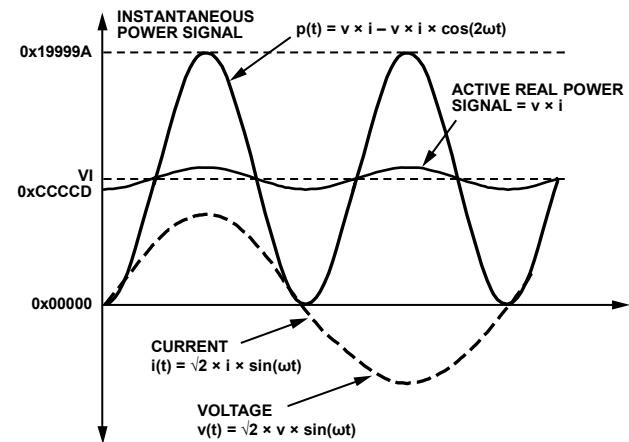

Figure 49. Active Power Calculation
Note that the active power is equal to the dc component of the instantaneous power signal $p(t)$ in Equation 9, that is, VI . This is the relationship used to calculate active power in the ADE7518. The instantaneous power signal $p(t)$ is generated by multiplying the current and voltage signals. The dc component of the instantaneous power signal is then extracted by LPF2 (low-pass filter) to obtain the active power information. This process is illustrated in Figure 49.
The ADE7518 also incorporates an active power offset register (WATTOS[15:0]). It is a signed, twos complement, 16-bit register that can be used to remove offsets in the active power calculation (see Figure 49). An offset can exist in the power calculation due to crosstalk between channels on the PCB or in the IC itself. The offset calibration allows the contents of the active power register to be maintained at 0 when no power is being consumed.
As mentioned previously, the discrete time sample period (T) for the accumulation register is 1.22 μ s (5/MCLK). With full-scale sinusoidal signals on the analog inputs and the WGAIN register set to 0x000, the average word value from each LPF2 is 0xCCCCD (see Figure 49). The maximum positive value that can be stored in the internal 49-bit register is 2^{48} (or 0xFFFF,FFFF,FFFF) before it overflows. The integration time under these conditions when WDIV = 0 is calculated in the following equation: